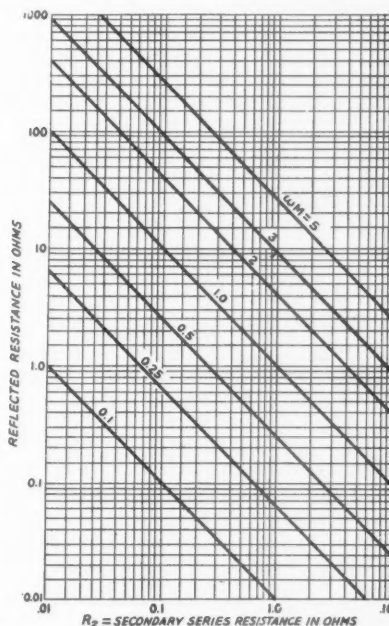

Fig. 2 — Graph obtained from the plotting of values given in Eq. (4).
Eq. (4) is plotted in Fig. 2.
For a given position of the coils, it can be seen from Eq. (4) that the reflected resistance will be high when the secondary resistance is low. In other words, increasing the Q of the secondary (or primary for that matter) yields the same effect as increasing the coupling between the coils. From Fig. 2 it can be seen that if the series resistance of the secondary is 1 ohm and ωM is 0.5 ohm a resistance of 0.25 ohm is reflected in series with the primary.